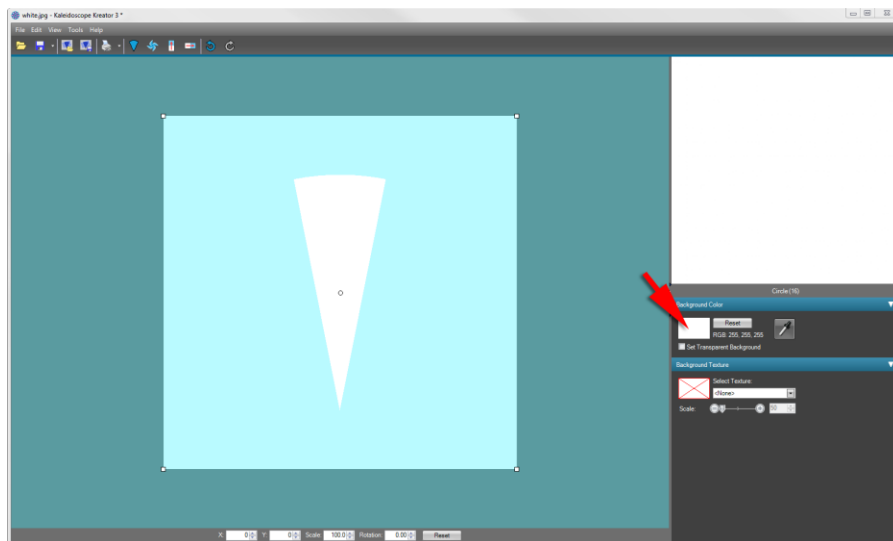
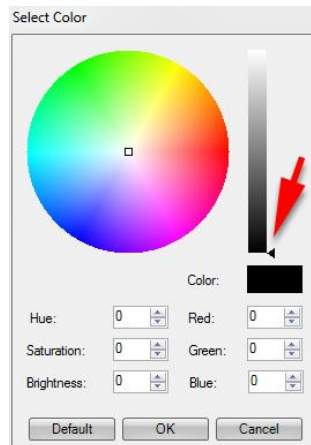

Figure 5
Figure 6
5. Choose black for a Background Color. Click on the white color swatch in the Background Color palette (Fig. 5) and choose black by sliding the right hand slider to the bottom. (Fig. 6) Click OK.